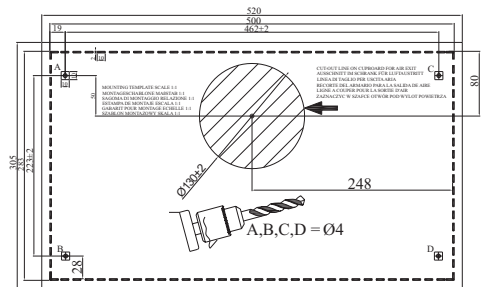

Figure 1
- Drill the flue outlet hole specified in the installing template in the sizes given. (Figure 1)